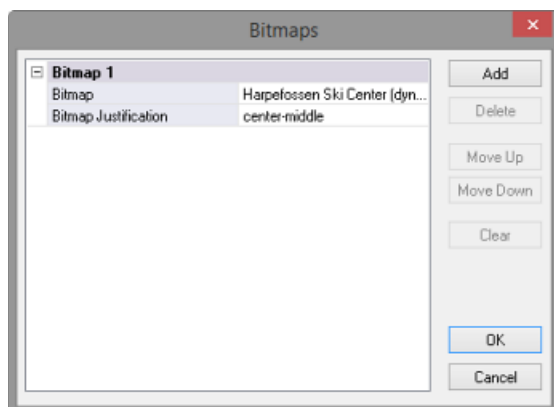

FIG. 36 Bitmaps dialog indicating a dynamic image to be applied to the selected UI element
3. Click the **Edit** button to open the *Edit Dynamic Image* dialog (FIG. 36):
4. Select a dynamic image and click **OK** to close the *Select Resource* dialog and return to the *Bitmaps* dialog, where you can adjust the Bitmap Justification as desired, and add other bitmaps to the selected UI element if desired (FIG. 36):